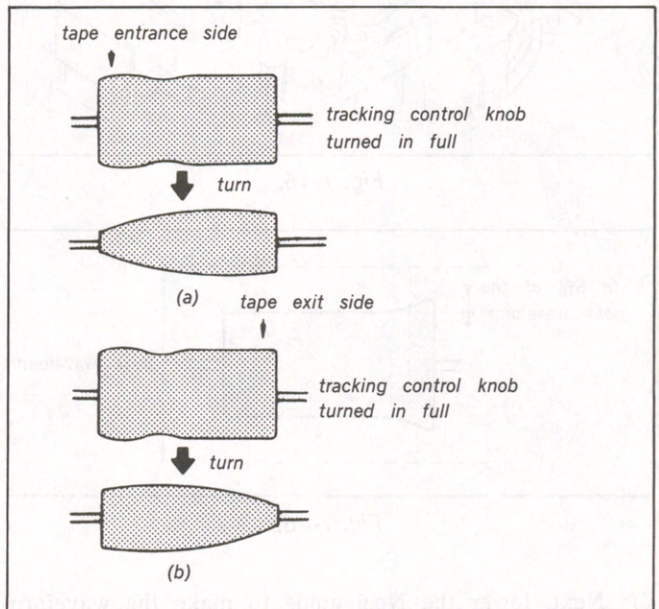

Fig. 7-44.
- 6) When the entrance waveform cannot be made flat as shown in Fig. 7-44 (a), control rectify the waveform following "7-4-2 Entrance side tracking adjustment". On the other hand, when the exit waveform cannot be made flat as shown in Fig. 7-44 (b), rectify it following "7-4-3 Exit side tracking adjustment".